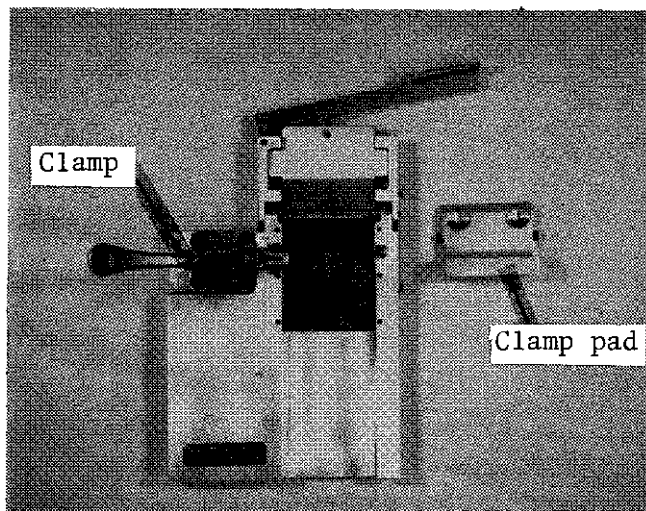

Figure 5-1. Folding Tool Ready for Use
1. Position the CE-1402400 folding tool on bench with the clamp open and the clamp pad removed (Figure 5-1).